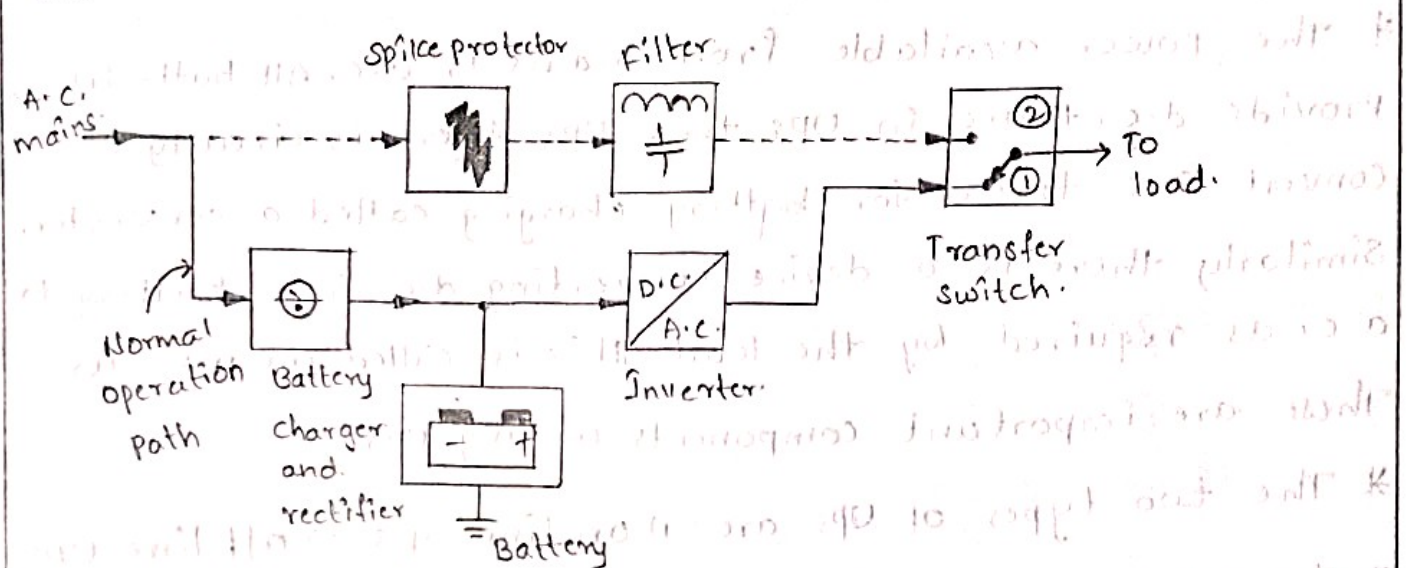

Fig. Q.27.1 Block Schematic of ON line Ups.
* The fig. Q.27-1 shows the block schematic of ON line Ups.